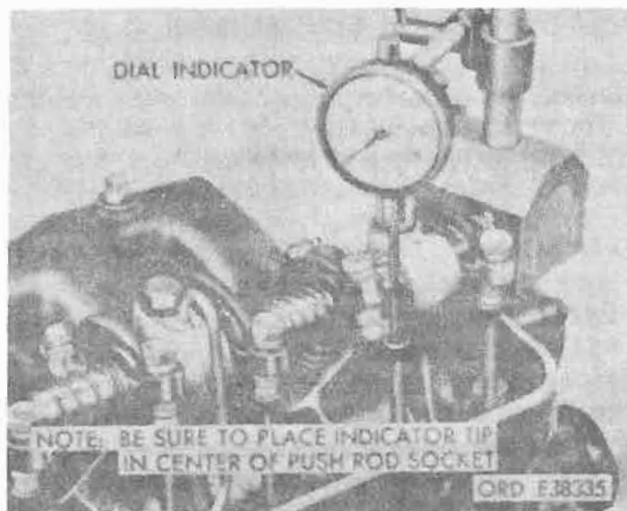

Figure 2-20. Camshaft lobe lift measuring, typical.
b. **Check Valve Timing.** Slide rocker arm to one side and secure in position. Make sure push rod is in tappet socket. Place dial indicator in such a manner as to have actuating tip of indicator in push rod socket and in the same plane as the rod movement (fig. 2-20). Turn crankshaft pulley slowly in direction of rotation until tappet is on base circle of camshaft lobe. At this point, push rod will be in its lowest position. Zero the dial indicator and continue turning crankshaft slowly in the direction of rotation until dial indicator registers specified camshaft lobe lift (table 2-6). Compare crankshaft degrees indicated on dial with specifications (table 2-6). After valve opening is checked, continue to rotate crankshaft to check intake valve closing.
c. **Check Camshaft Lobe Lift.** This procedure is similar to procedure for checking valve timing. Place dial indicator in push rod socket (fig. 2-20). Turn crankshaft pulley slowly in direction of rotation until tappet is on base circle of camshaft lobe. At this point, push rod will be in its lowest position. Set dial indicator on zero. Continue to rotate crankshaft slowly until push rod is in fully raised position. Compare total lift recorded on indicator with specification (table 2-6). Continue to rotate crankshaft until indicator reads zero. This last step is a check on the accuracy of the original indicator reading.